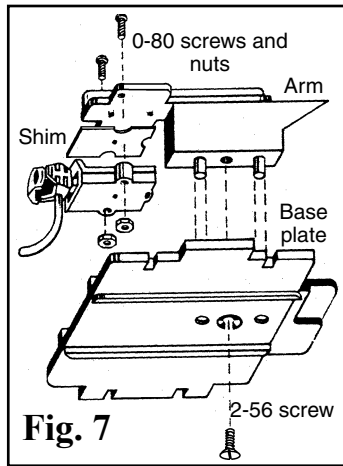

Fig. 7
to complete the assembly of the S-Scale height gauge. See Fig. 7.
8. Using the 2-56 screw enclosed, the arm can now be attached to the base plate. Insert the screw from the bottom of the base plate up and into the bottom of the arm assembly. The pointed car height gauge of the arm should be on the same end with the base's trip pin height gauge. Tighten the 2-56 screw to complete the assembly of the S-Scale height gauge. See Fig. 7.